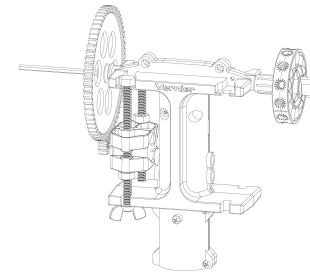

Figure 5
- Move your generator up or down by adjusting the hex nuts so that the pinion gear meshes with the gear on the driveshaft (see Figure 5).